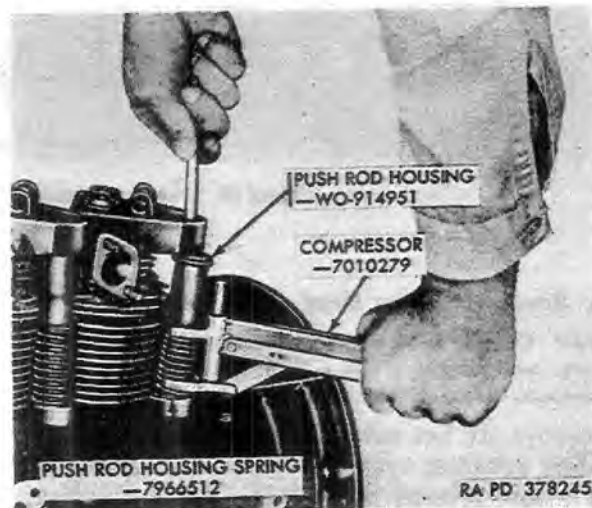

Figure 18. Compressing valve push rod housing spring for removal.
Compress push rod housing spring (F) using push rod tube spring compressor 7010279 (fig. 18). Push the push rod housing from its seat in cylinder head, swing end of housing outward to clear cylinder head, and remove the housing and three washers (E and